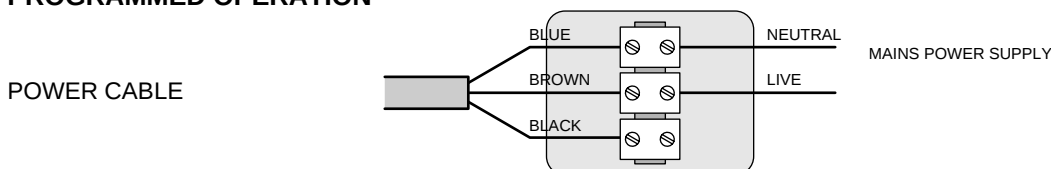

Fig. 10
- Switch off the mains power supply and connect the power cable to the junction box as shown in fig. 10 blue wire: neutral; brown wire: live; black wire: for automatic controls.